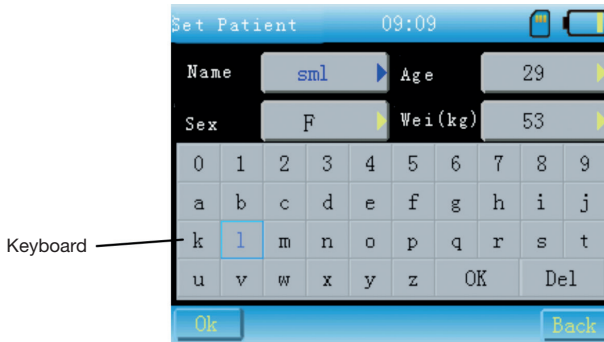

Fig. 13-3-4
- 7 Info input: when it is enabled, you have to enter the interface "Set Patient" as Fig.13-3-4 before print or save.